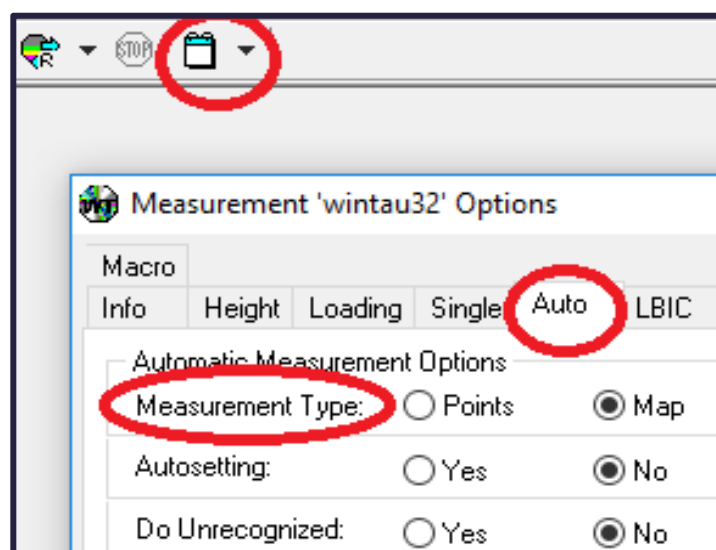

Figure. 5
- c. In "Auto" option, select "Measurement Type" (Points/Map) and click on "Apply" and then "OK" button. (Figure. 5)